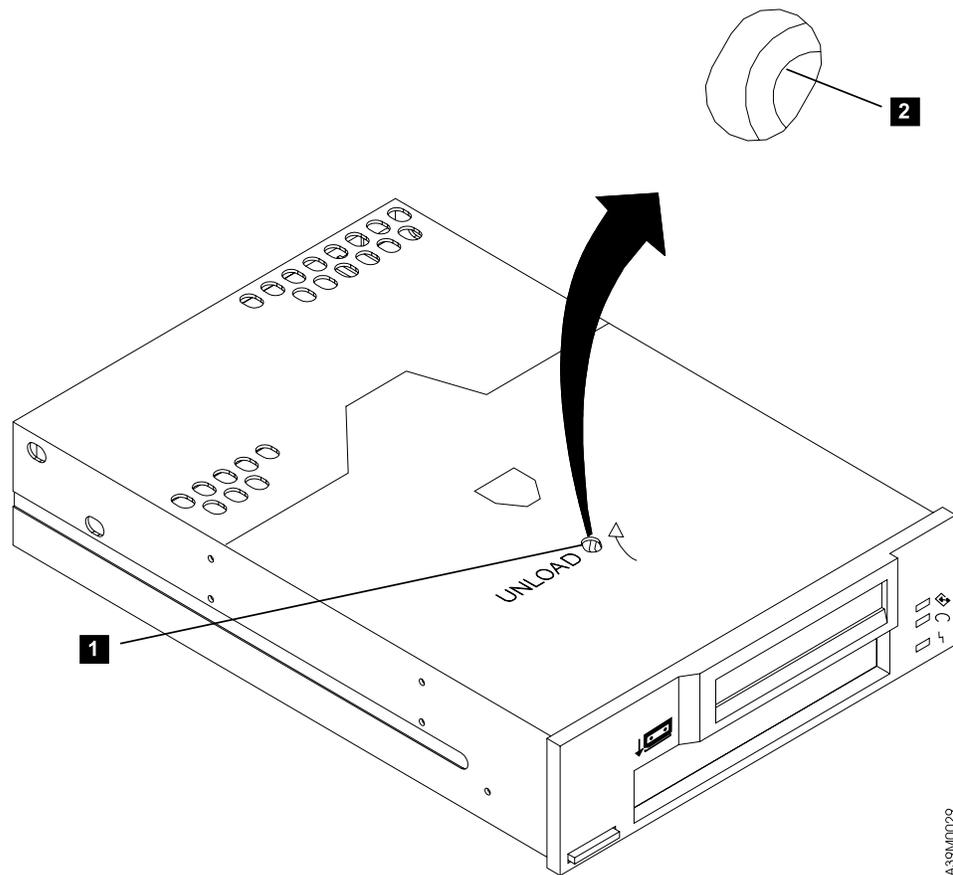

Figure 17. Moving the Supply Reel Motor. The drive is turned upside down.
- a. On the bottom of the drive, locate the hole marked UNLOAD ( **1** in Figure 17) and cut the seal above the hole.